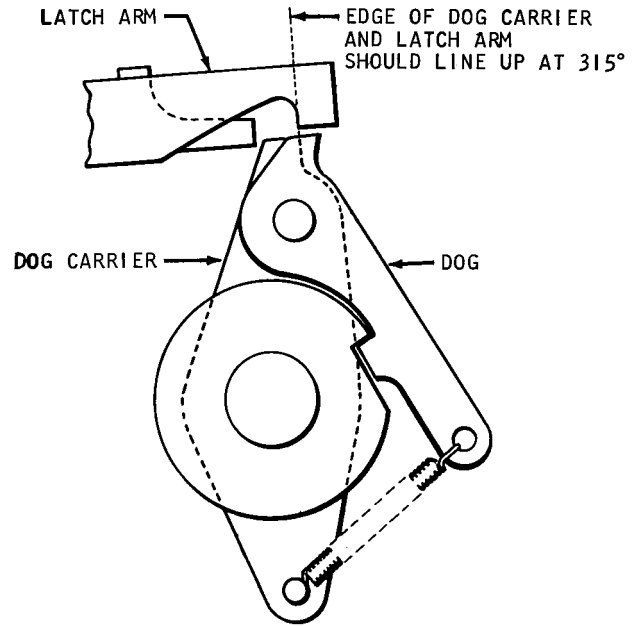

Figure 34. Clutch Timing
2. While holding the armature in the tripped position, continue turning the machine until the latching surfaces of the clutch latch arm and the dog carrier coincide (Figure 34).